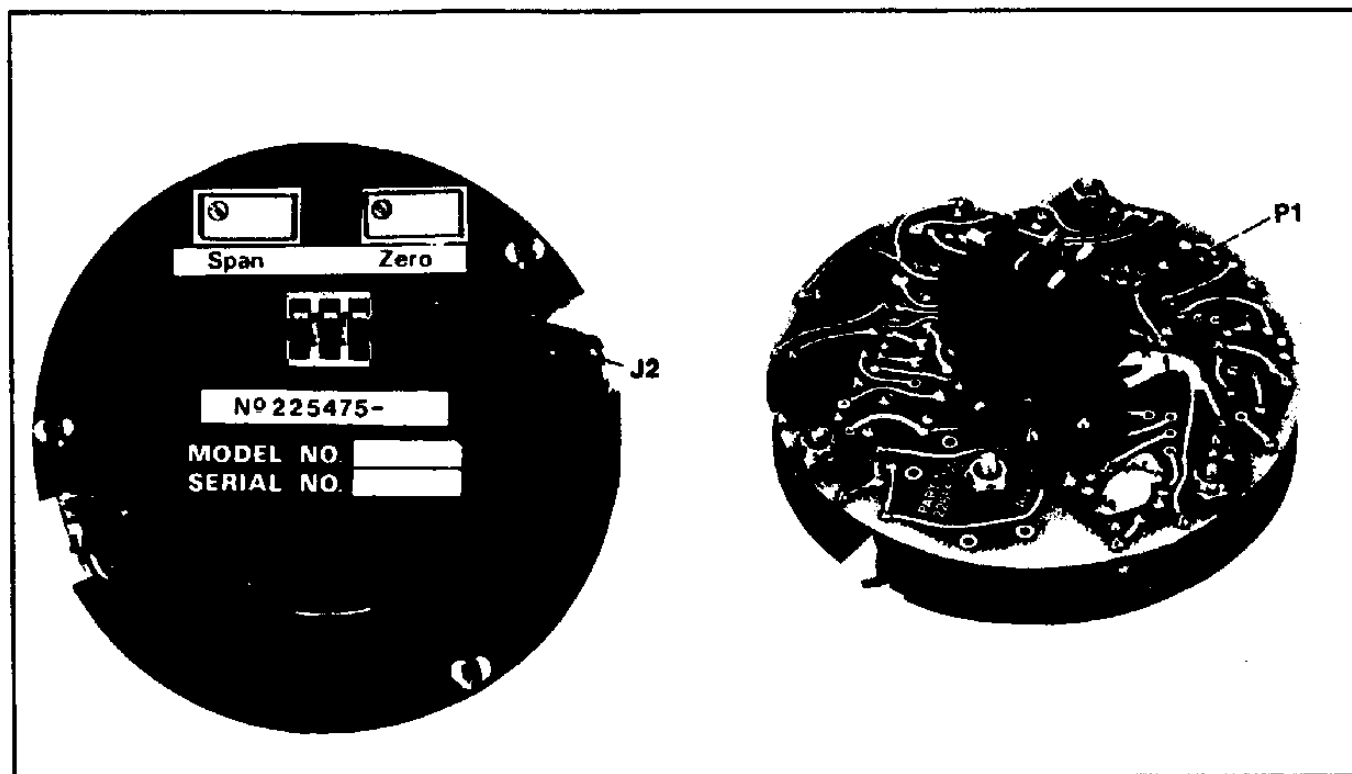

Figure 2-8. Transmitter PWA, Top and Bottom Views
c. Install the transmitter PWA (see Figure 2-8) by inserting the connector pins on the bottom of the PWA into the mating receptacle in the conduit box. Verify the connector is fully engaged. The system is now ready for calibration.